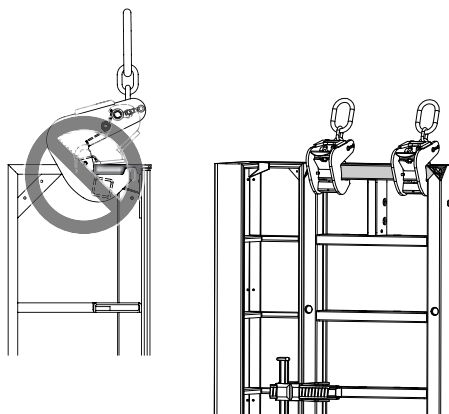

Fig. 6a
- With the TRIO Inside Corner, the Lifting Hooks must be attached to the next panel (high profile). (Fig. 6a)